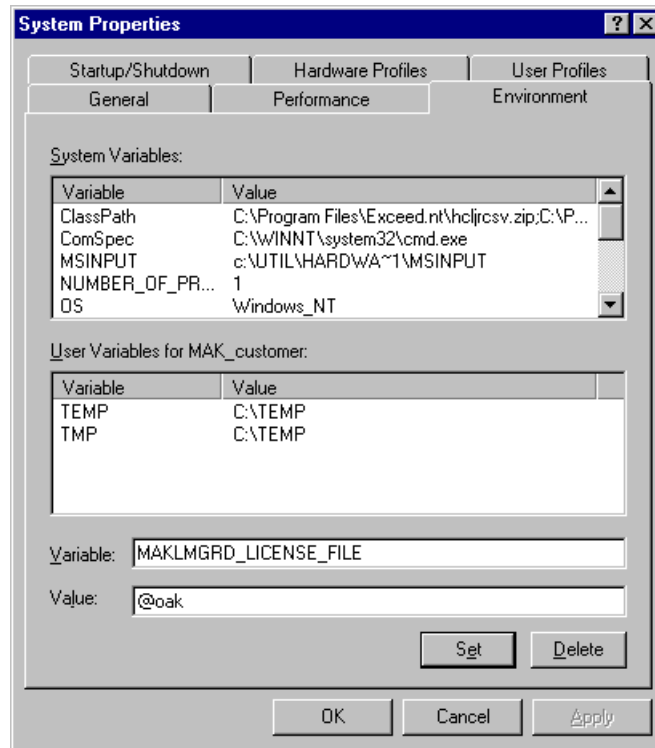

Figure 2-3. Setting an environment variable in Windows NT
2. On the pop-up menu, select Properties. The System Properties dialog box opens (Figure 2-3).